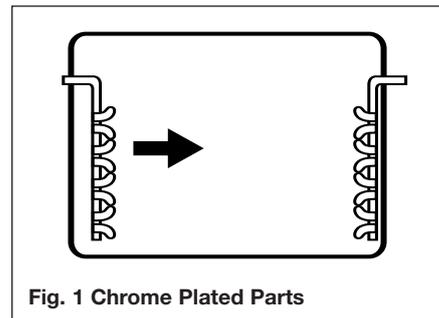

Fig. 1 Chrome Plated Parts
- Note: When positioning the pan support, ensure that the fingers are central to the burners (Fig 1).
#### Chrome plated parts (Fig 1)
Do not use abrasives or polishes. Use a moist soap pad, eg; Brillo. Shelf runners can be removed for cleaning. Grasp the runners and slide out of the hanging holes as shown in fig 1.
1. Open access door pull retaining clip upwards (fig. 1).